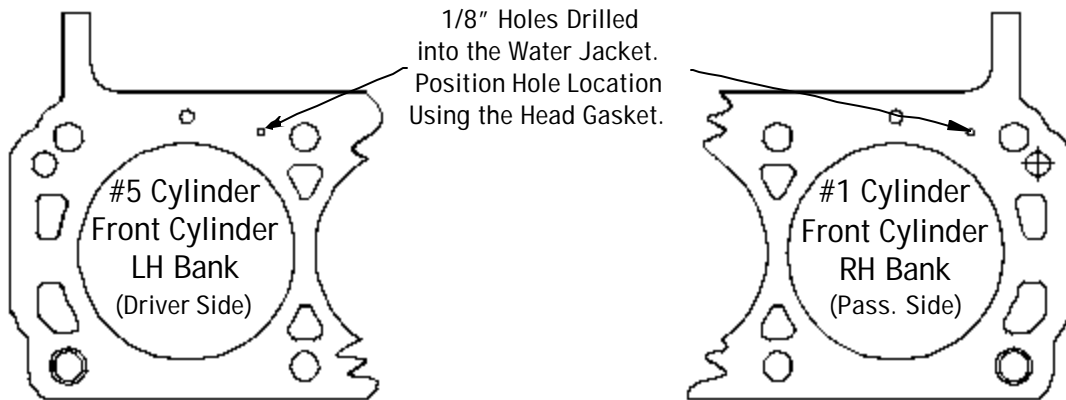

Figure 2 - Steam Hole Locations for Early 289 & 302 Engine Blocks
1. Check the upper deck to see if you have an early or late model block (not needed with 351-W): a) Late model 289-302 blocks have the water passages located next to the head bolt location on the deck of the block (This block will not require drilling). b) Early 289-302 blocks will have the water passages located directly over the cylinder upper deck area and will require drilling 1/8" steam holes as seen in Figure 2.